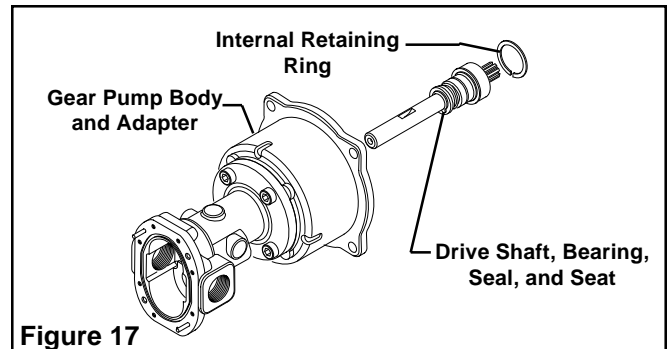

Figure 17
3. Supporting the outer bearing race, press the new Drive Shaft, Bearing, Washers, Seat, and Seal into the Gear Pump Body and Adapter (See Figure 17).
4. Install the Internal Retaining Ring at the back of the Gear Pump Body and Adapter (See Figure 17).